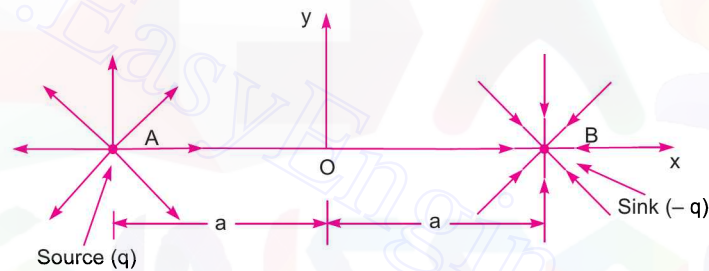
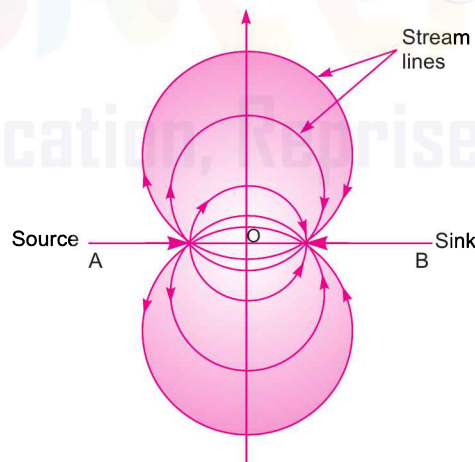

Fig. 5.39 Source and sink pair.
Fig. 5.40 Stream lines for source-sink pair.
**5.17.1 Source and Sink Pair.** Fig. 5.39 shows a source and a sink of strength  $q$  and  $(-q)$  placed at  $A$  and  $B$  respectively at equal distance from the point  $O$  on the  $x$ -axis. Thus the source and sink are placed symmetrically on the  $x$ -axis. The source of strength  $q$  is placed at  $A$  and sink of strength  $(-q)$  is placed at  $B$ . The combination of the source and the sink would result in a flownet where stream lines will be circular arcs starting from point  $A$  and ending at point  $B$  as shown in Fig. 5.40.
To satisfy this, the locus of  $P$  must be a circle with  $AB$  as chord, having its centre on  $y$ -axis, as shown in Fig. 5.40.